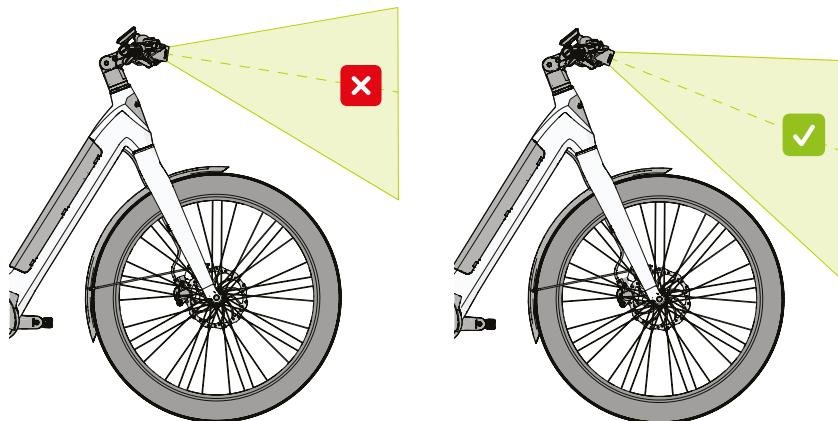

Figure 25 - Correct lighting angle.
Tilt the front light ⑩ until the light beam shines as far ahead as possible but still touches the ground so you can see as much of the road surface as possible, as indicated in Figure 25.